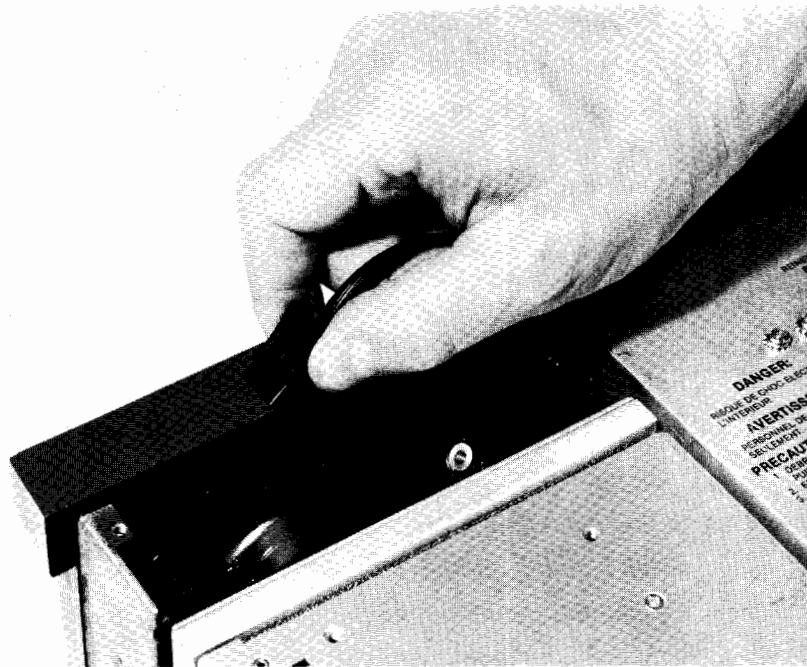

Figure 4-24. Disconnecting Processor Stack Fan Cable
10. Disconnect fan cable from processor stack fan (Figure 4-24).